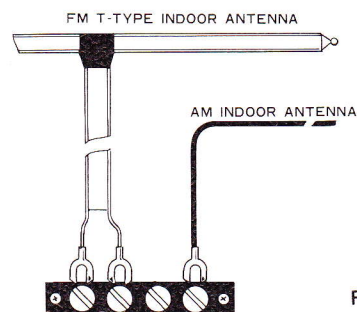

Fig. 9
- Employ the T-type indoor antenna accessory to the SX-440 when using the SX-440 within a wooden building near the FM radio station. Connect the end of the vertical section of the T-type antenna to the FM ANTENNA TERMINALS (15) as shown in Fig. 9, and expand the horizontal section of the T-type antenna. While actually receiving broadcast, determine the direction of the horizontal section for the best radio reception and fix it on a wall or other place. Refer to the article "RECEPTION OF FM BROADCAST" regarding the determination of the antenna direction.
- When using the SX-440 afar from the broadcasting station, behind a mountain or within a ferroconcrete building, install an FM radio antenna (or FM/TV common antenna) outdoors and connect it to the FM antenna terminals (15). The FM antenna is various in type, having 3 to 7 elements. Select the most suitable antenna by consulting a nearby radio antenna sales store.